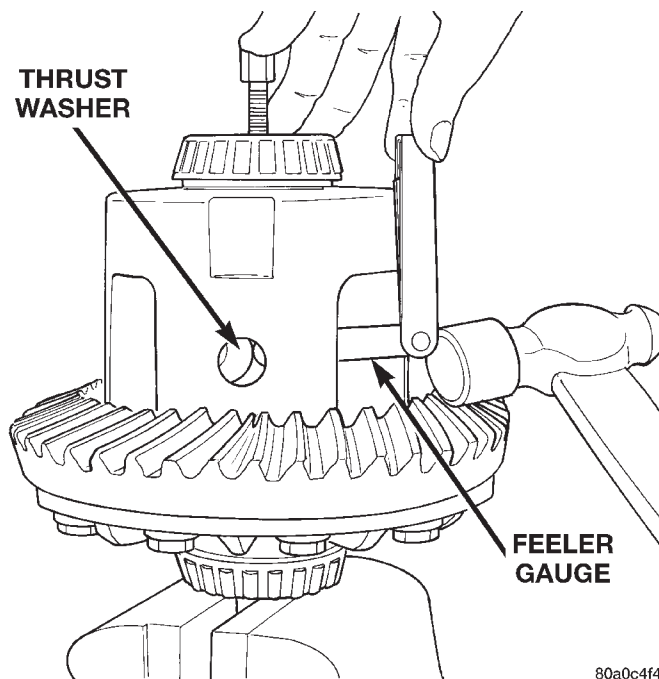

Fig. 48 Remove Pinion Thrust Washer
(10) Using a 0.020 in. feeler gauge and mallet, remove thrust washers from behind the pinion gears (Fig. 48).